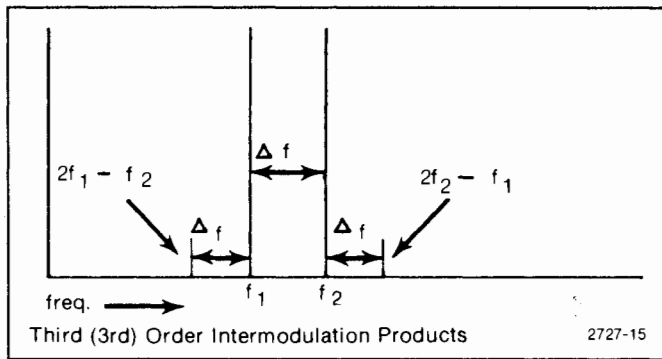

Figure 4-15. Intermodulation products.
d. Check that the third order IM products are at least 70 dB down from the input signal level. See Figure 4-15.